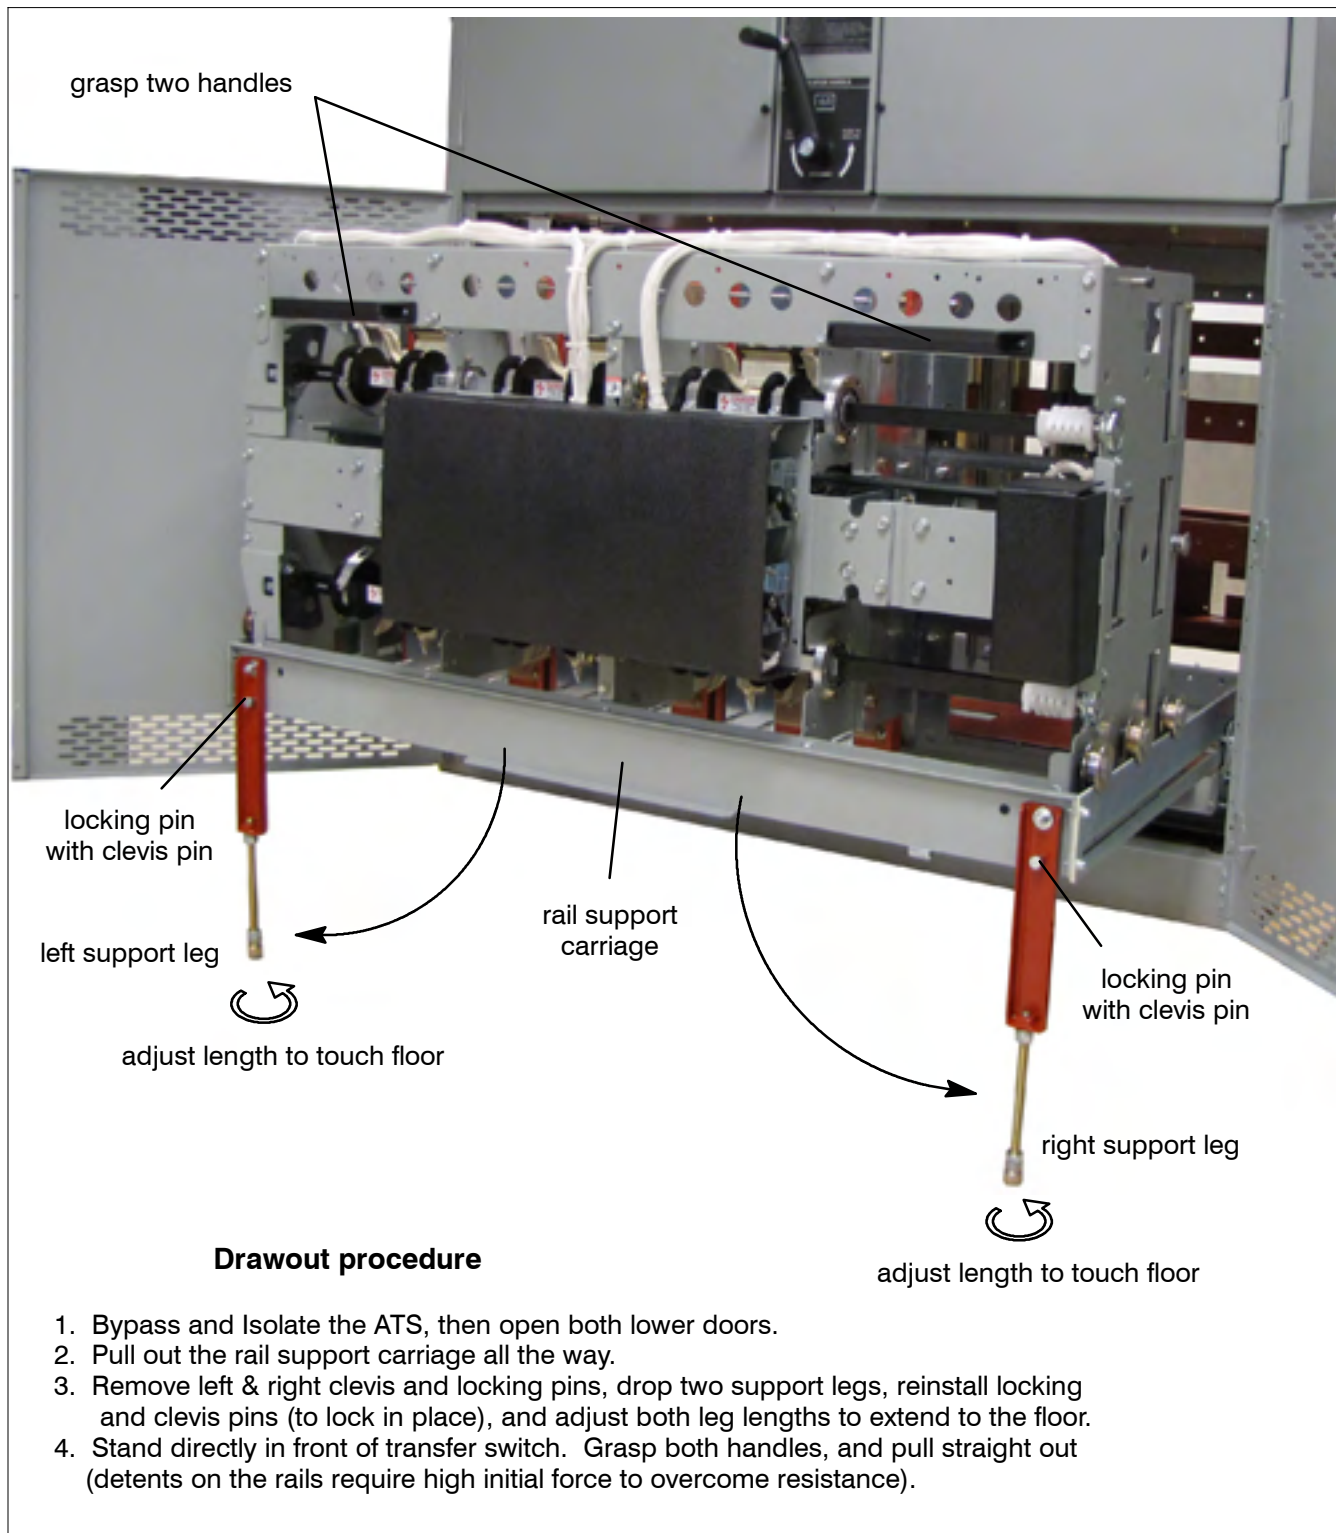

Figure 3-7b. 4000 amp transfer switch isolated and pulled out for inspection.
4. Open the lower enclosure door(s). Pull out the side rail carriage. On 4000 A extend two support legs; see Figure 3-7b. Then roll out the transfer switch. It can be safely inspected in this position. The transfer switch can also be removed for maintenance operations.
To avoid personal injury and equipment damage on 4000 A switches, two support legs must be extended as shown in Figure 3-7b. Substantial initial force is required to pull out the transfer switch (there are detents on rails).
- Slide the transfer switch (ATS) into the enclosure (isolation contacts facing inward) until its crank pins engage the latch plates on both sides. On 4000 A substantial force is required to overcome detents on the rails. Next push in side rail carriage. On 4000 A first retract the two legs and lock them in place. See Figure 3-7b. Then close enclosure door(s).